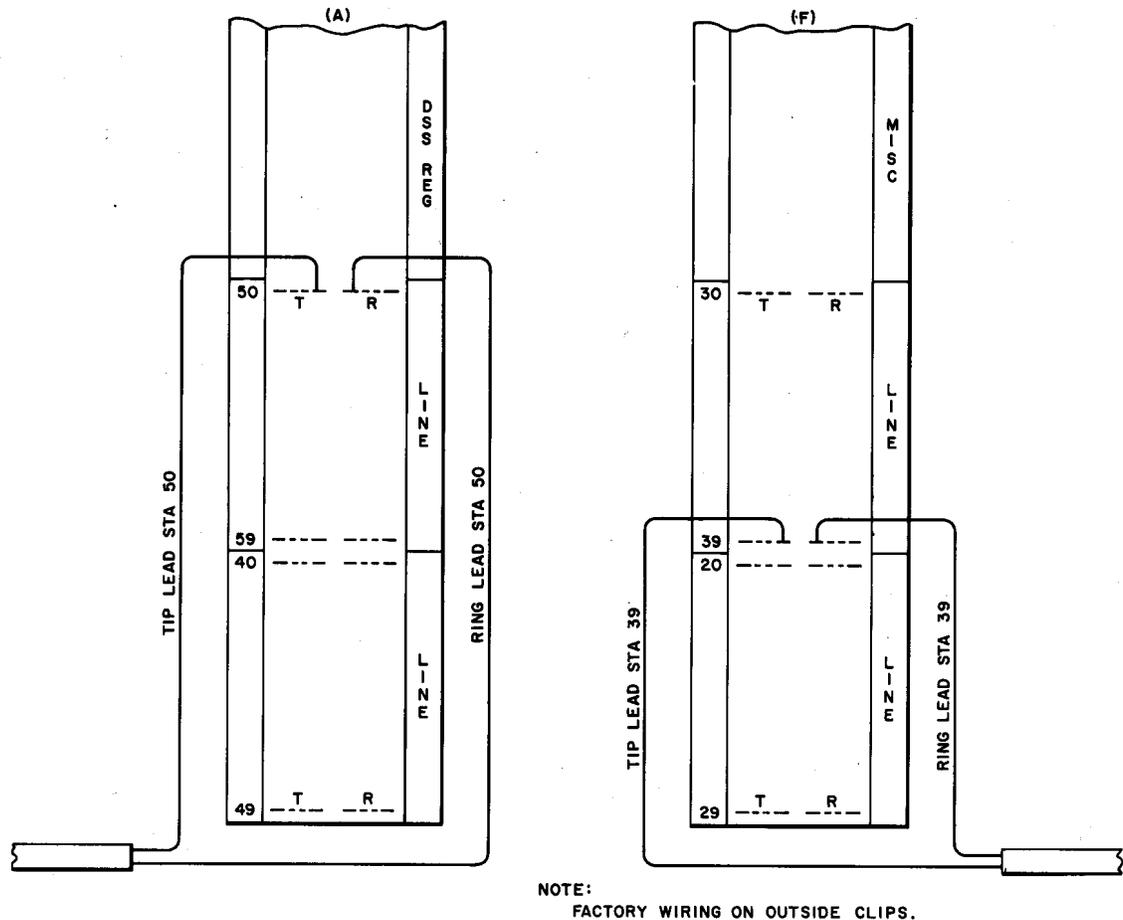

Fig. 3—Method of Terminating T and R Leads in Lists 1 and 2 (MD) Cabinet Assemblies
- (1) Connect **T** and **R** leads from station to designated terminals in crown of cabinet as shown in Fig. 3. Refer to Fig. 1 for position of blocks A and F.
**Note:** List 2 (MD) cabinet assemblies are shop wired with a jumper cable from station lines 20-39 terminal block F to their respective DSS terminal block G through L in crown. When installing a station line not arranged for direct station selection (DSS) disconnect **T** and